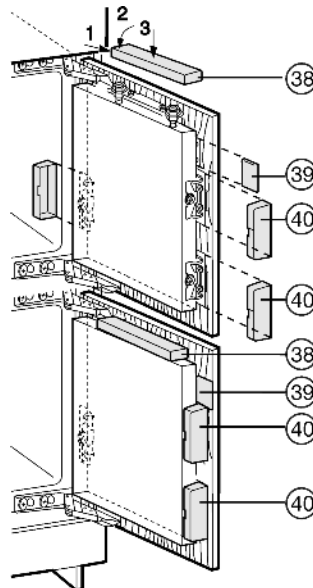

Fig. 27
- ▶ Position the upper covers *Fig. 27 (38)* and snap into place.
- ▶ Place the side covers *Fig. 27 (39)* in position, slide to the limit and then press until they snap audibly into place.
- ▶ Attach the covers *Fig. 27 (40)* to the side and then draw them forward with a screwdriver, so that they snap properly into place.